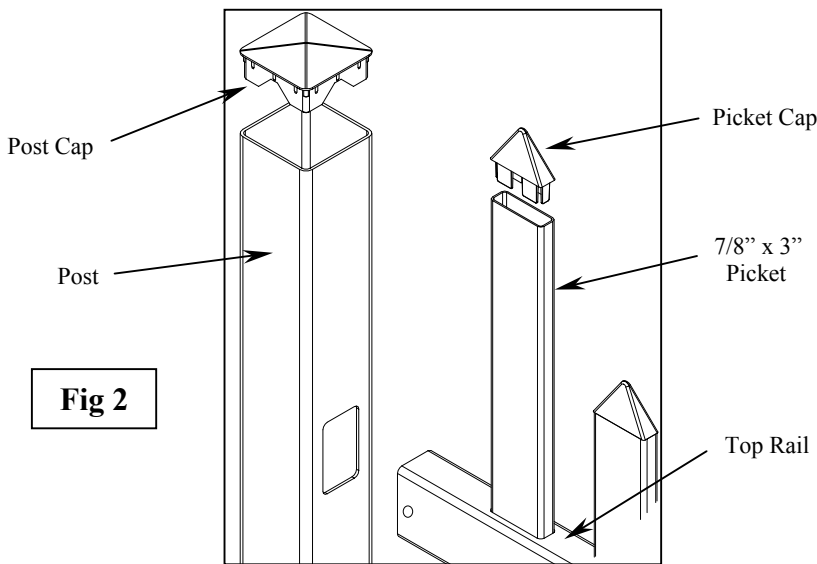

Fig 2
6) Install top rail in same fashion as bottom rail in operation #3. (Fig. 2) **Note that the picket holes are larger on the rail bottom and face down!**
8) Install picket caps and post caps (4" flat shown) by pressing into place. A dab of PVC glue may be used to secure caps permanently in place. (Fig. 2)